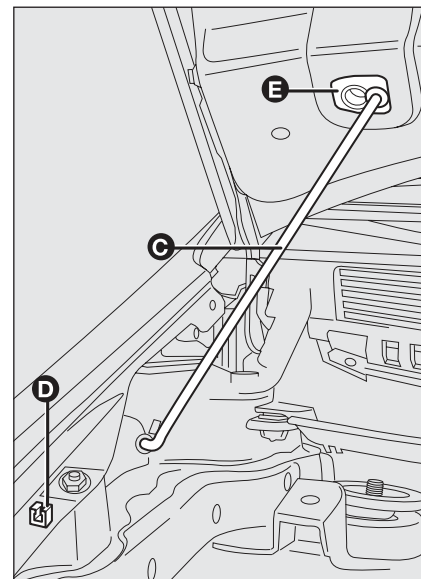

fig. 124
- lift the bonnet and at the same time release the rod **C**-fig. 124 from the clip **D**, then insert the rod end in its housing **E** on the bonnet.
- hold the bonnet up with one hand and with the other remove rod **C**-fig. 124 from recess **D** and replace it in its locking device **E**;